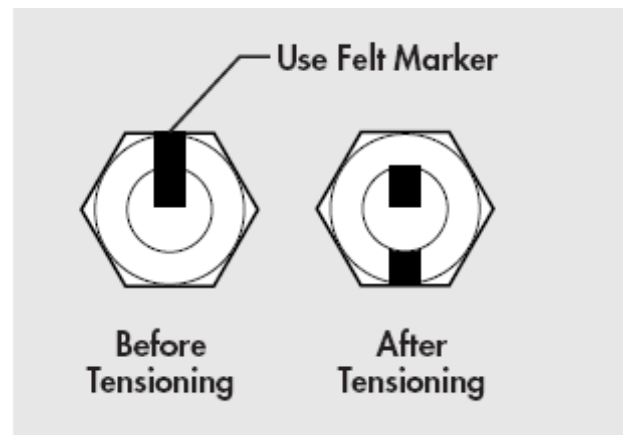

Figure 1-1b:
- **1/2 TURN (180°)** as shown in **Figure 1-1b**, for bolts **longer than 4 diameters** ("After Tensioning")